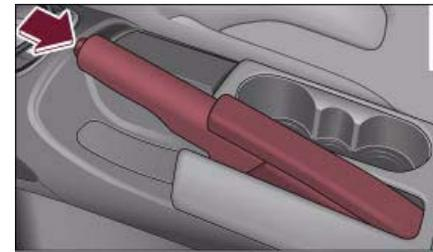

Fig. 73 Detail of the centre console: Handbrake applied
- Pull the lever up slightly and *at the same time* press in the release button ⇒ fig. 73 -arrow-.